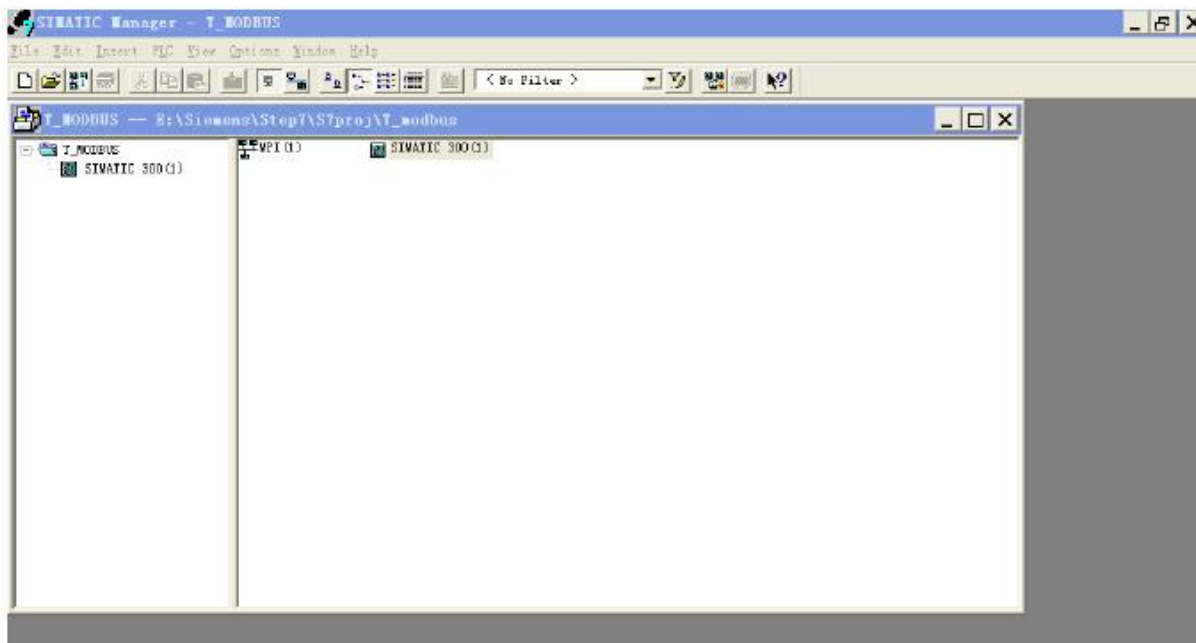

图 3
3. Insert → Station → SIMATIC 300 Station, 如图 3: